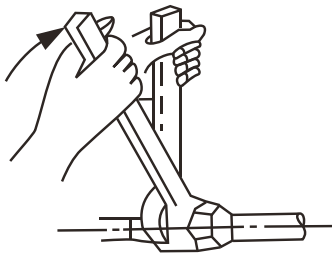

Fig. 5-4
- Tighten it with a spanner and torque wrench (Refer to Fig.5-4)
- When connecting the refrigerant pipes, always use two wrenches/spanners to tighten or loosen the nuts! (Refer to Fig.5-4) Otherwise, it will cause damage of piping connections and leakage.